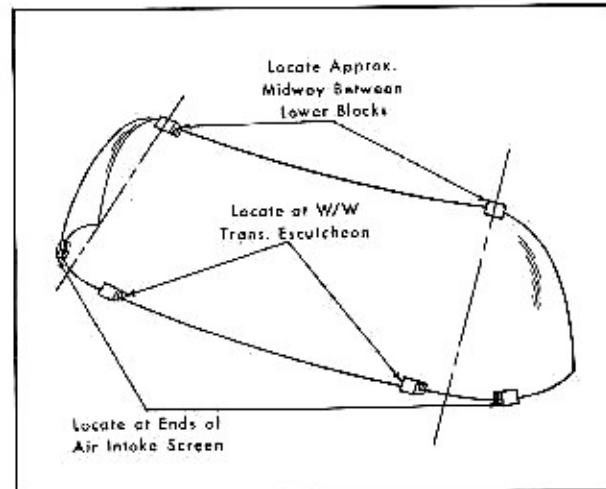

Fig. 3-15 Spacer Position for Pinchweld Alignment
3. Carefully position glass in opening on Wooden Spacers, Tool No. J-5742, as shown in Fig. 3-15. Do not allow glass to strike body metal during this temporary installation. Chipped edges can cause future breaks.